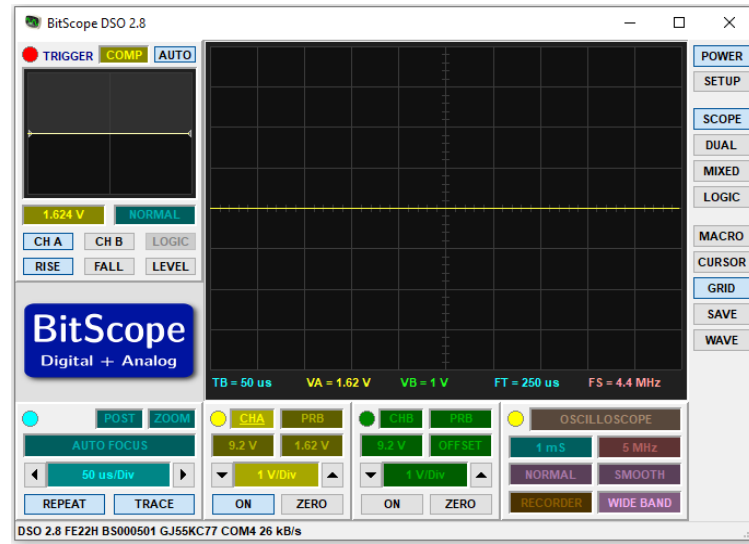

Figure 5. The default BitScope DSO Panel upon powering up.
- Upon successful setting up and powering up of DSO by clicking the **POWER** button at the top right corner, the default BitScope DSO panel appears as shown in Figure 5.